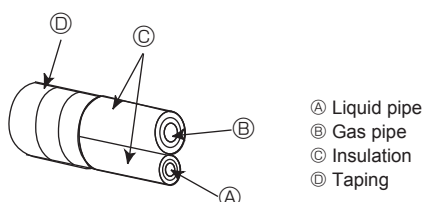
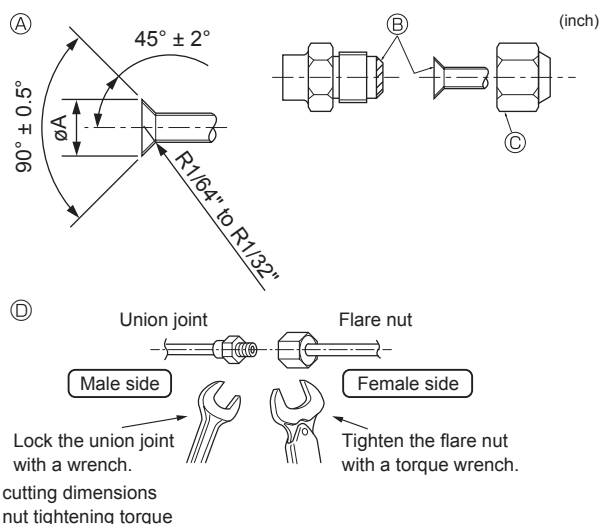

Fig. 4-5
Fig. 4-6
Ⓐ (Fig. 4-6)
4.3. Connecting pipes (Fig. 4-5) (Fig. 4-6)
- [Fig. 4-6]
- ① Pipes must be connected starting from the indoor unit.